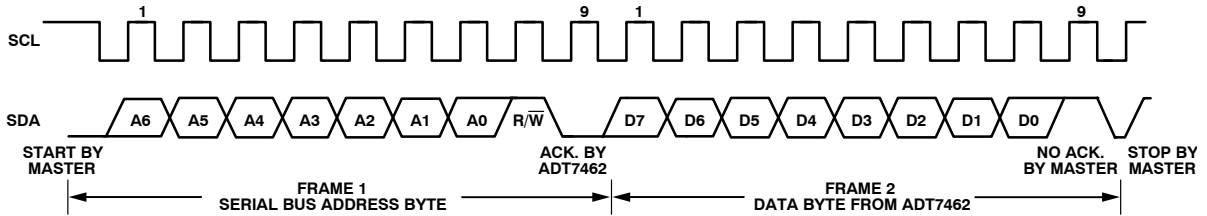

Figure 26. Reading Data from a Previously Selected Register
A read operation is then performed, consisting of the serial bus address and the R/\overline{W} bit set to 1, followed by the data byte read from the data register (see Figure 26).
- If the address pointer register is known to be already at the desired address, data can be read from the corresponding data register without first writing to the address pointer register (see Figure 26).